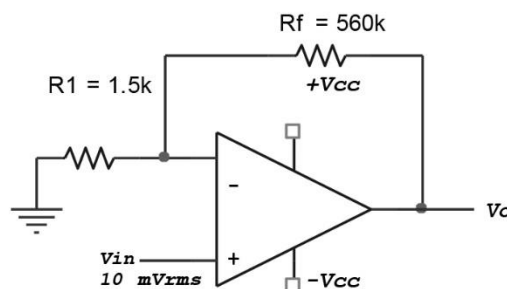

Figure 1
2. For the amplifier in Figure 1 determine the following: (a)  $A_{CL(NI)}$  (b)  $V_O$  (c)  $V_f$ .